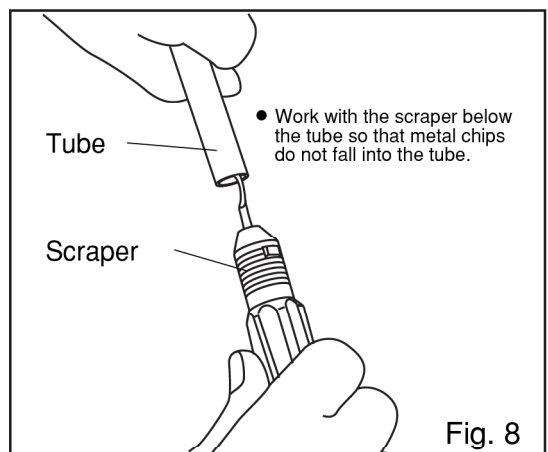

Fig. 8
- ③ Remove burrs from the cut end of the tube with a scraper. (Fig. 8)